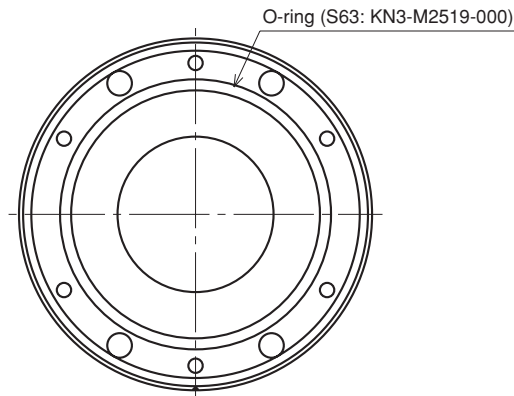

Fig. 5-9
AN O-RING IS FITTED TO THE FLANGE, SO BE CAREFUL NOT TO DROP IT INTO PERIPHERAL UNITS. (SEE FIG. 5-9.)
- 12) Fit a new O-ring coated with harmonic grease into the O-ring groove on the Flange. (See Fig. 5-9.)